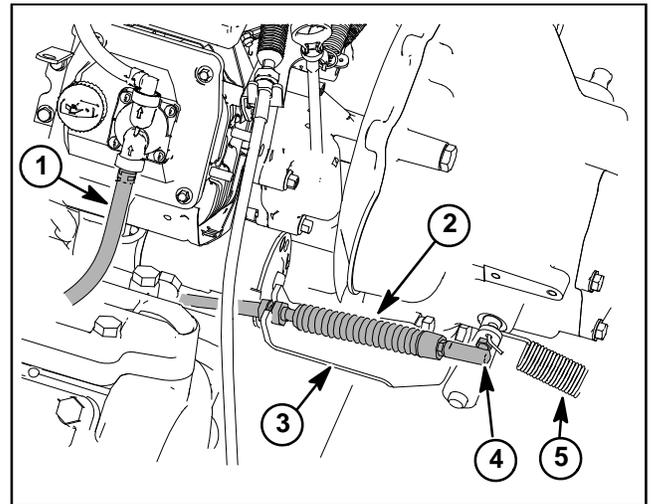
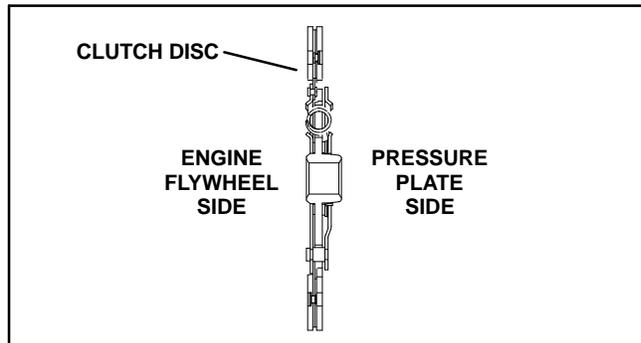

Figure 19
Figure 21
4. Remove clutch cable from bracket on clutch housing (Fig. 19). Remove ball joint lock nut and ball joint from throwout lever, loosen cable bulkhead nuts, and remove clutch cable from bracket. Remove the return spring.
5. Remove six (6) hex head screws (item ) and clutch cable bracket securing bell housing assembly to adapter plate (item 1).
6. Support bell housing assembly and slide assembly rearward until output shaft (item 30) is free from clutch. Remove bell housing assembly from machine.
7. Remove six (6) hex head screws and lock washers securing pressure plate assembly (item 13) to flywheel and remove pressure plate assembly and clutch disc from engine.
8. Remove pilot bearing (item 10) from flywheel and discard bearing.
11. If necessary, remove four (4) hex head screws, lock washers, and flat washers, and remove adapter plate (item 1) from engine.
5. Position clutch disc with flat side against flywheel (Fig. 21). Position pressure plate assembly over alignment pins in flywheel. Use clutch alignment tool (see Special Tools in this chapter) and center clutch disc over pilot bearing. Secure pressure plate assembly to flywheel with six (6) hex head screws and lock washers. Tighten screws from **17 to 21 ft-lbs (23 to 28 N-m)** and remove clutch alignment tool.
6. Align output shaft with splines in clutch disc and install bell housing assembly over alignment pins in adapter plate (item 2). Fit the clutch cable bracket and R-clamp under the mounting screws and secure bell housing to adapter plate with six (6) hex head screws. Tighten screws from **55 to 65 ft-lbs (75 to 88 N-m)**.
7. Install clutch cable to bracket on clutch housing (Fig. 19). Set bulkhead nuts so an equal amount of cable housing thread appears on each side of the cable bracket and tighten bulkhead nuts. Install ball joint to throwout lever with lock nut and tighten. Install return spring. Adjust clutch cable (see Clutch Cable Adjustment in this chapter).